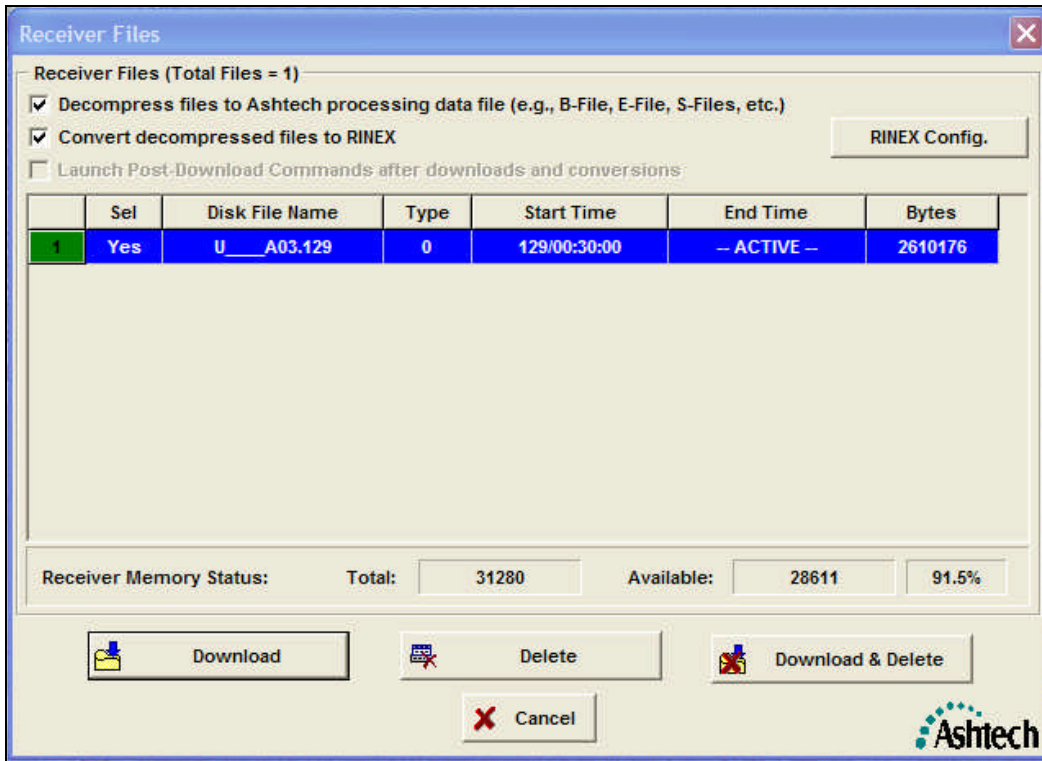

Figure 9. Downloading data file from the GPS receiver
16. The GPS receiver will start logging the MET data. You can access these files from Micro-manager under the "Receiver" menu and "Files" option. When this option is selected, you will see the dialog box in Figure 9.